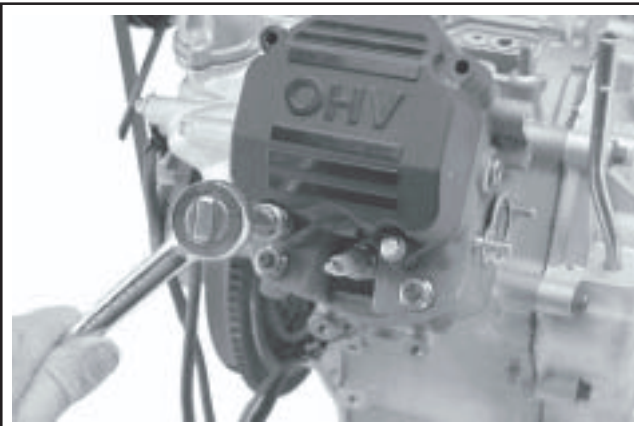

Figure 9-29. Removing Two Lower Valve Cover Screws.
1. Remove the hex. flange screws from the two lower valve cover mounting locations on each side. See Figure 9-29.